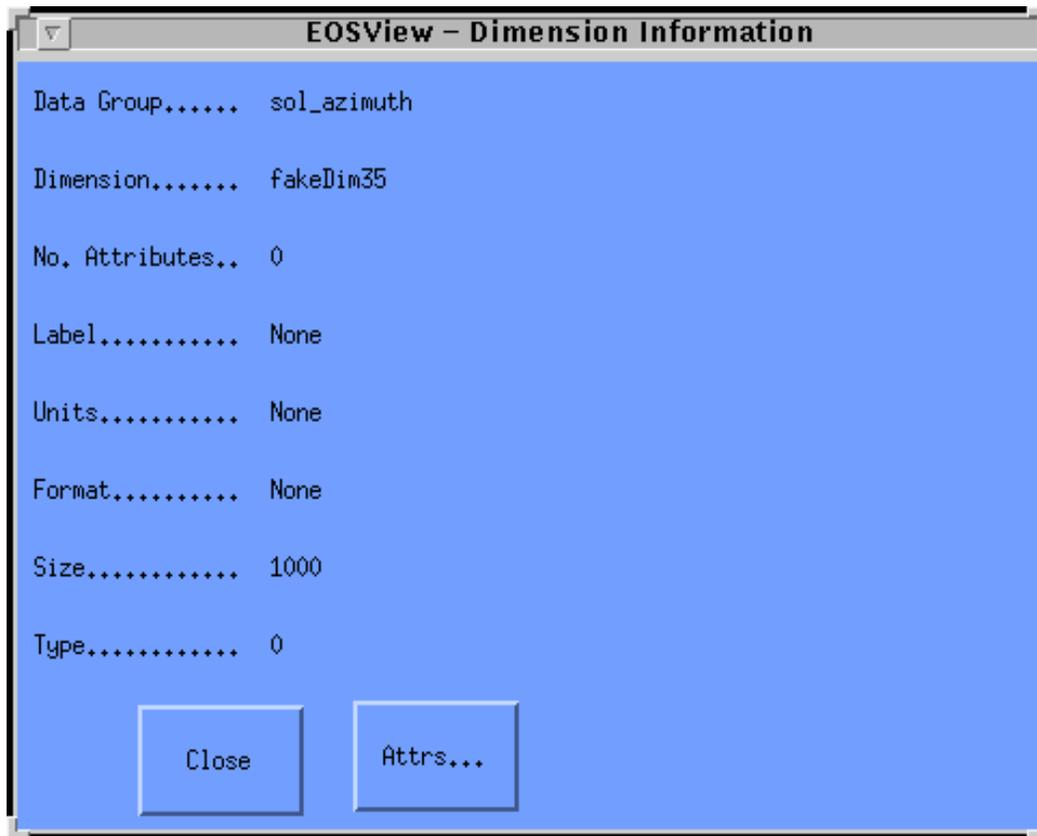

Figure 4.12.5-5. Dimension Information Pop-up
EOSView can only display 2-dimensional (2-D) datasets. If a dataset contains more than 2-D, a 2-D slice of the dataset needs to be selected. This is accomplished by selecting ONLY 2 dimension boxes to the left of the dimension name. The other dimensions can have an index entered in the text box. Additional information for each dimension can be displayed in a separate window by pressing the button next to the dimension the information is desired. Clicking on the **Info...** button brings up a Dimension Information pop-up shown below in Figure 4.12.5-5.
Selecting the **Table** button from the Multi-Dimension SDS window brings up a table window as shown in Figure 4.12.5-6. The table window displays a 1 or 2 dimensional list of the data as either a Scientific Data Group or Vdata. The window is sizable and contains horizontal and vertical scrollbars.
The **File** pulldown menu contains the following items, as shown in Figure 4.12.5-6:
- **M**ake Image - This creates a pseudo-color image of the selected table. Selecting this option causes the Min/Max Values Pop-up to appear (Figure 4.12.5-14)